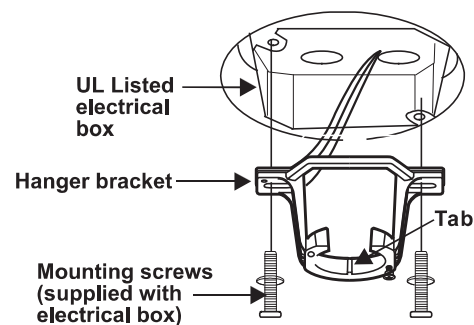

Figure 10
4. Secure the hanger bracket to the ceiling outlet box using screws and washers included with your outlet box. (Fig. 10)